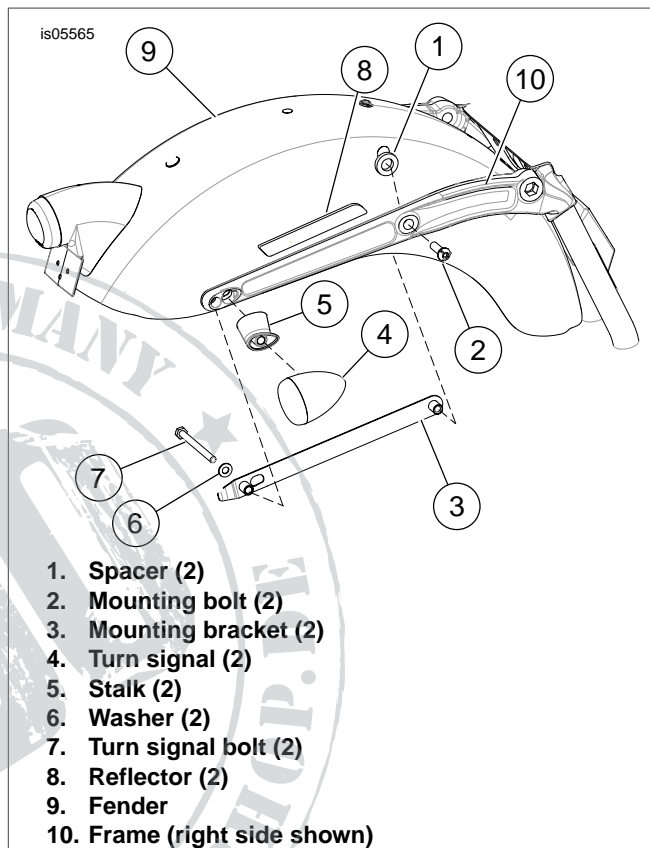
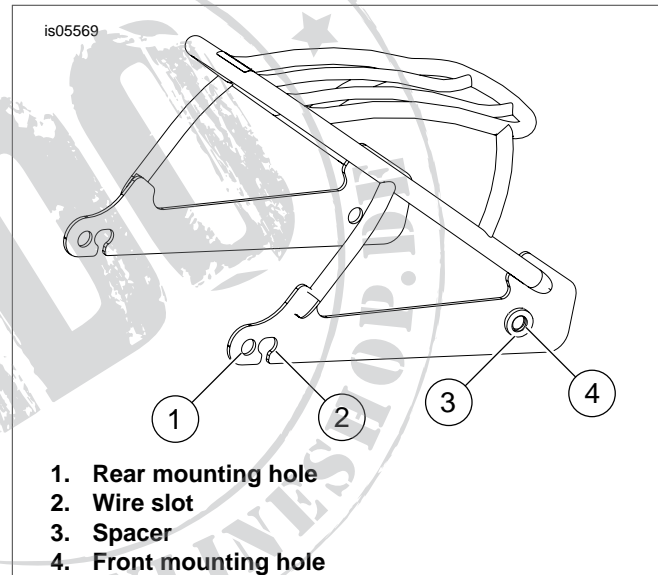

Figure 1. Remove Fender Components
Figure 3. Rack Mounting
- See Figure 1. Remove the reflector (8) from the rear fender. Use dental floss (or equivalent) and a sawing motion if necessary to remove reflector. Repeat for the other side.
- See Figure 1. Remove the turn signal bolt (7) and lower the turn signal (4) and stalk (5) as an assembly. Repeat for other side.
- Remove the mounting bolt (2).
1. See Figure 3. Install the spacer (3) on the outside of the front mounting hole of the rack (4). There should be enough adhesive residue to allow the spacer to temporarily adhere to the rack. Repeat for the other side.
2. Gently position the rack inside the frame. Verify that the spacers are still aligned with the mounting holes (4) and the turn signal wires are routed through the slots of the rack (2). Insert two dowel pins through the mounting holes in the rack, through the spacer and frame to hold the rack in place. Insert two dowel pins into the rear mounting holes (1) and through the frame. Do not pinch the turn signal wires with the dowel pins.
4. See Figure 1. Install the mounting bracket (3) from the inside of the fender and align with the dowel pins. Push the legs of the mounting bracket through the mounting holes and plastic sheeting or bag, driving the dowel pins out.
5. **For Non-FXDB Models:** Install fender strut cover and mounting bolt (2). Tighten the mounting bolt finger-tight. Repeat for other side.